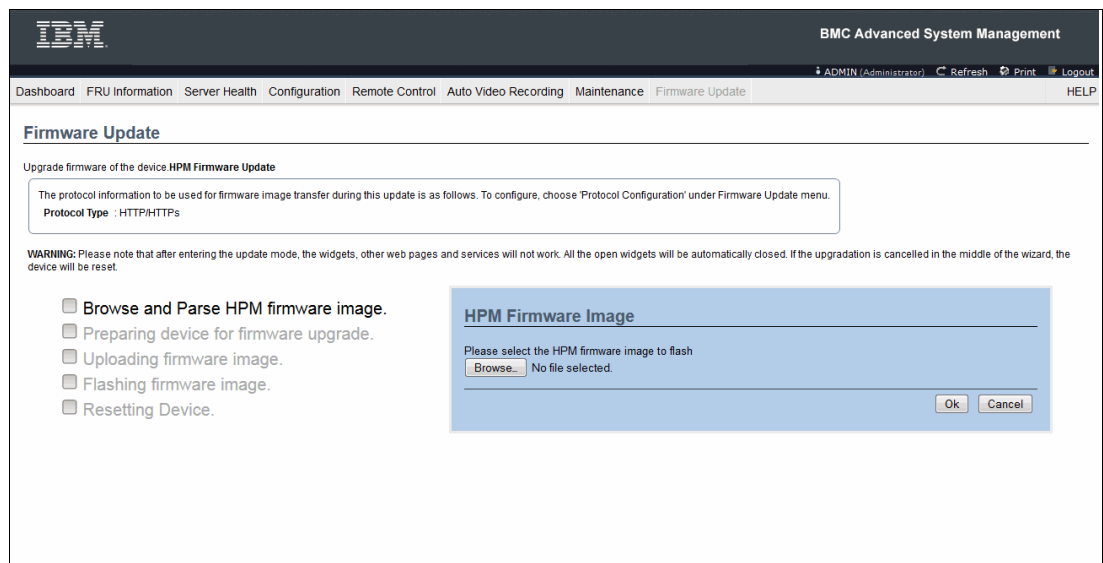

Figure 3-8 Select the firmware image
6. Select the firmware update file from your local disk by selecting **Browse and Parse HPM firmware page**, clicking **Browse**, and selecting the file, as shown in Figure 3-8,